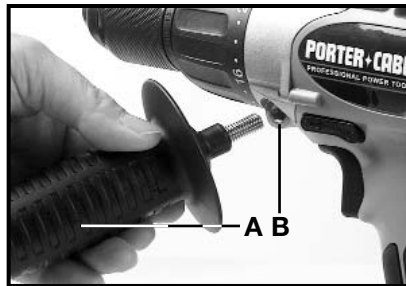

Fig. 7
Models 984 and 987 are shipped with a side handle (A) Fig. 7 to provide additional control and support during high torque drilling and driving operations. The side handle can be used on either side of the drill/driver. To use, screw the side handle (A) into the threaded hole (B) on either side of the tool.